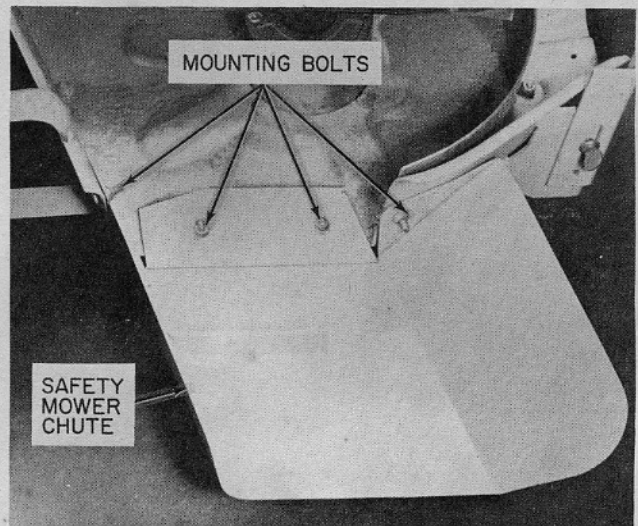

Fig. 3
3. Insert a 1/4-20 bolt through the rear hole of the new chute, and then through the corresponding holes in the deck and mower baffle. Secure with lockwashers and nuts, but do not tighten. See Fig. 3.